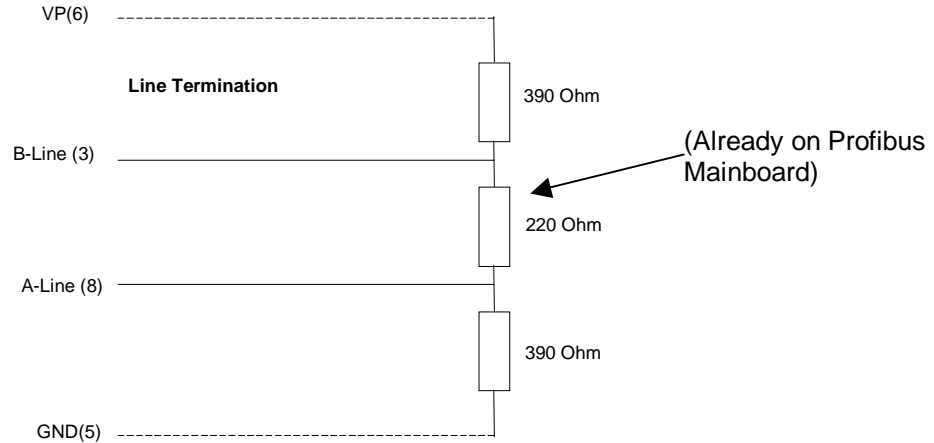

Figure 3.2
- b. It is necessary to terminate both ends of the network. Both terminations must have power to them to insure proper operation of the network. The following diagram (Figure 3-2) illustrates the correct connection for the termination resistors.
NOTE: The above wiring diagram (Fig. 3.2) is for illustrative purposes only. Cabling and connectors should be PTO approved to achieve the desired performance results. See Section 3.1.3 for recommended part numbers.